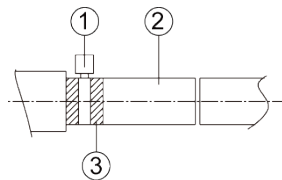
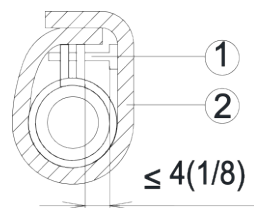

Fig 4.3.2
Fig 4.3.3
- (1) Insert the drain hose into the drain hole and tighten it with tapes, as shown in Fig 4.3.2.
- (2) Tighten the pipe clamp, with the distance between screw nut and hose smaller than 4mm(1/8in.).
- ① metal clamp(accessory)
- ② drain hose(accessory)
- (3) Use sealing plate to make the pipe clamp and hose insulated, as shown in Fig.4.3.3.
- ② thermal sponge(accessory)